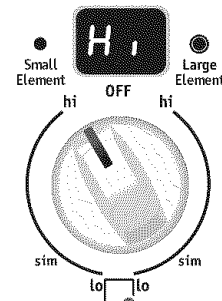
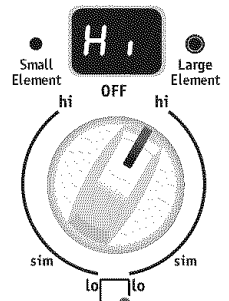

Fig. 6
Fig. 7
2. Push in and turn the control knob counterclockwise (See Fig. 6) for smaller cookware or clockwise (See Fig. 7) for larger cookware.
This model is equipped with a “BRIDGE” surface element located at the left front and middle (See Fig. 6) positions. The Bridge can be used when cooking with rectangular (like a griddle) or oval shaped cookware. The element will maintain an even temperature setting across both portions of the Bridge. If needed for normal cookware, the Bridge element can work like a single element without the Bridge (See Fig. 3).
Bridge element operation symbols are located on the cooktop on each side of the Bridge element control knob. These symbols indicate the direction to turn the control knob when operating the Bridge element. The symbol in Figure 1 indicates that only the single portion of the Bridge element will heat (Fig. 5). The symbol in Figure 2 indicates that both the single and Bridge portions of the element will heat together (Fig. 6). You may switch from either of these settings at any time during cooking with the Bridge element.